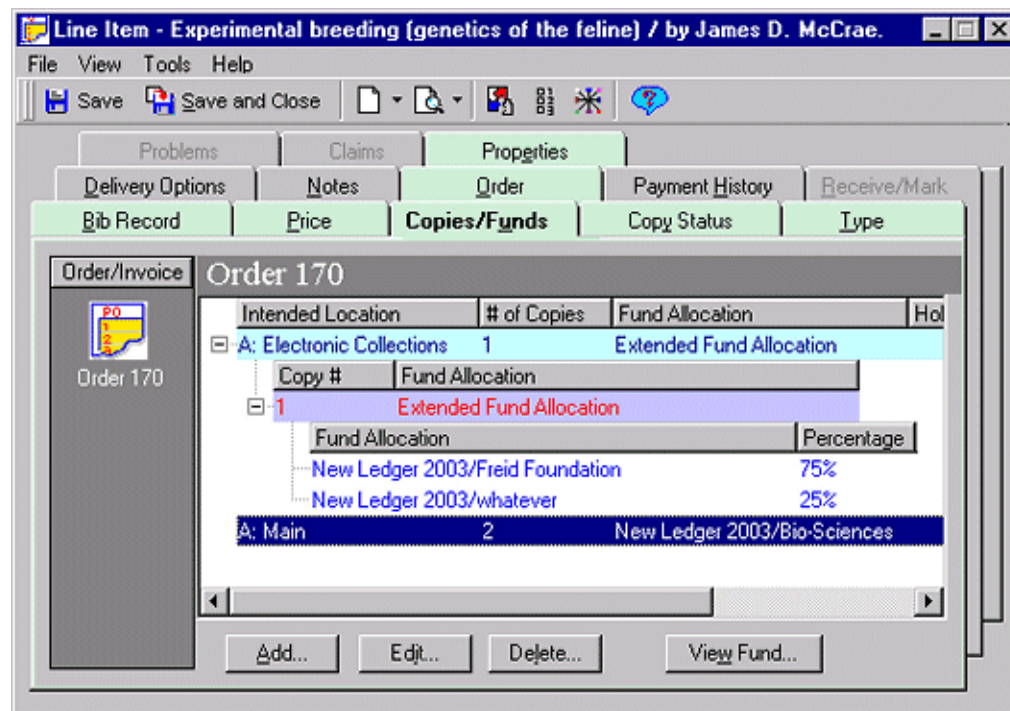

Figure 6-38. Copies/Funds tab, hierarchy
5. If your entries are complete and you will not be using the Extended Fund Allocation feature, click the **Close** button to return to the **Copies/Funds** tab of the **Line Item** dialog box (see Figure 6-38). Otherwise, continue with Procedure 6-13, Editing extended fund allocations.
Result: The fund's allocation is changed. The **Copies and Funds** dialog box closes, and all copies and funds for the item display in a hierarchical structure on the **Copies/Funds** tab of the **Line Item** dialog box (see Figure 6-38).
The copy and fund information displays in a hierarchical structure on the **Copies/Funds** tab (Figure 6-38) after fund allocations have been completed.